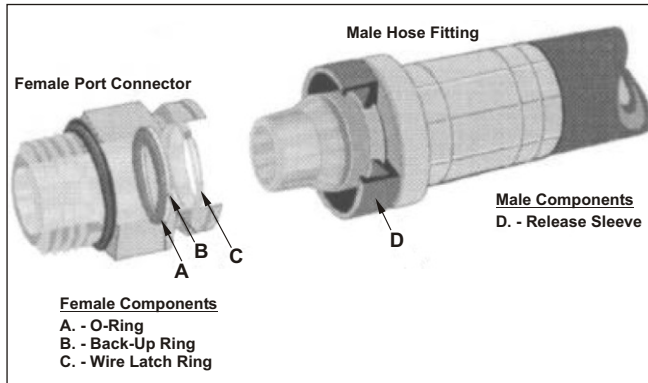
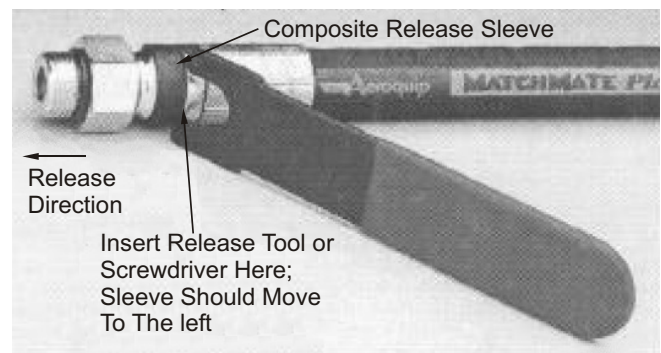

Figure 1. - STC Components
Figure 2. - STC Assembly
3. To help avoid release sleeve tearing create a release tool insertion gap by moving the sleeve in the release direction. (see Figure 2). This can be done either by hand or by using a single prong of the release tool.
4. Insert the release tool behind the release sleeve **D** (see Figure 1) and pull the hose assembly out from the mating STC connector (leaving the release tool inserted will aid disassembly). **Do not pry on the fitting with the release tool.** (See Figure 2).